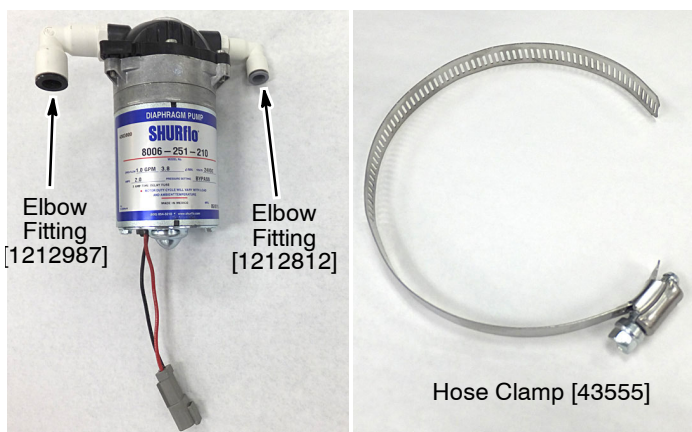

Fig. 25
9. Using thread sealer, install two elbow fittings to pump as shown below. To mount pump to machine, use large hose clamp. Fully unscrew clamp to route clamp around pump during installation (Figure 25).